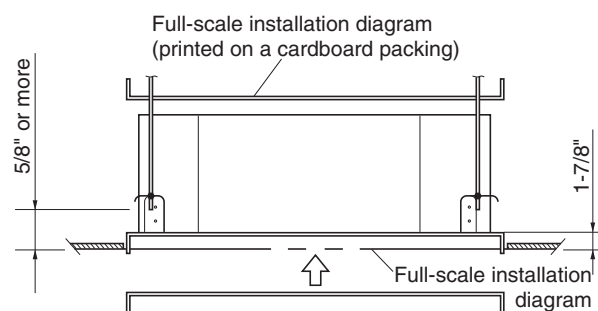

Fig. 3-4
- (1) When placing the unit inside the ceiling, determine the pitch of the suspension bolts using the supplied full-scale installation diagram. (Fig. 3-4)
The size of the opening for the indoor unit can be confirmed by attaching the full-scale installation diagram beneath the unit. (Fig. 3-4)
- (2) The length of each suspension bolt must be appropriate for a distance between the bottom of the bolt and the bottom of the ceiling of 5/8" or more as shown in Fig. 3-4.
- (4) Remove the protective cardboard used to protect the fan parts during transport.
- (5) Adjust the distance between the unit and surface of the ceiling. (1-7/8") (Fig. 3-4)